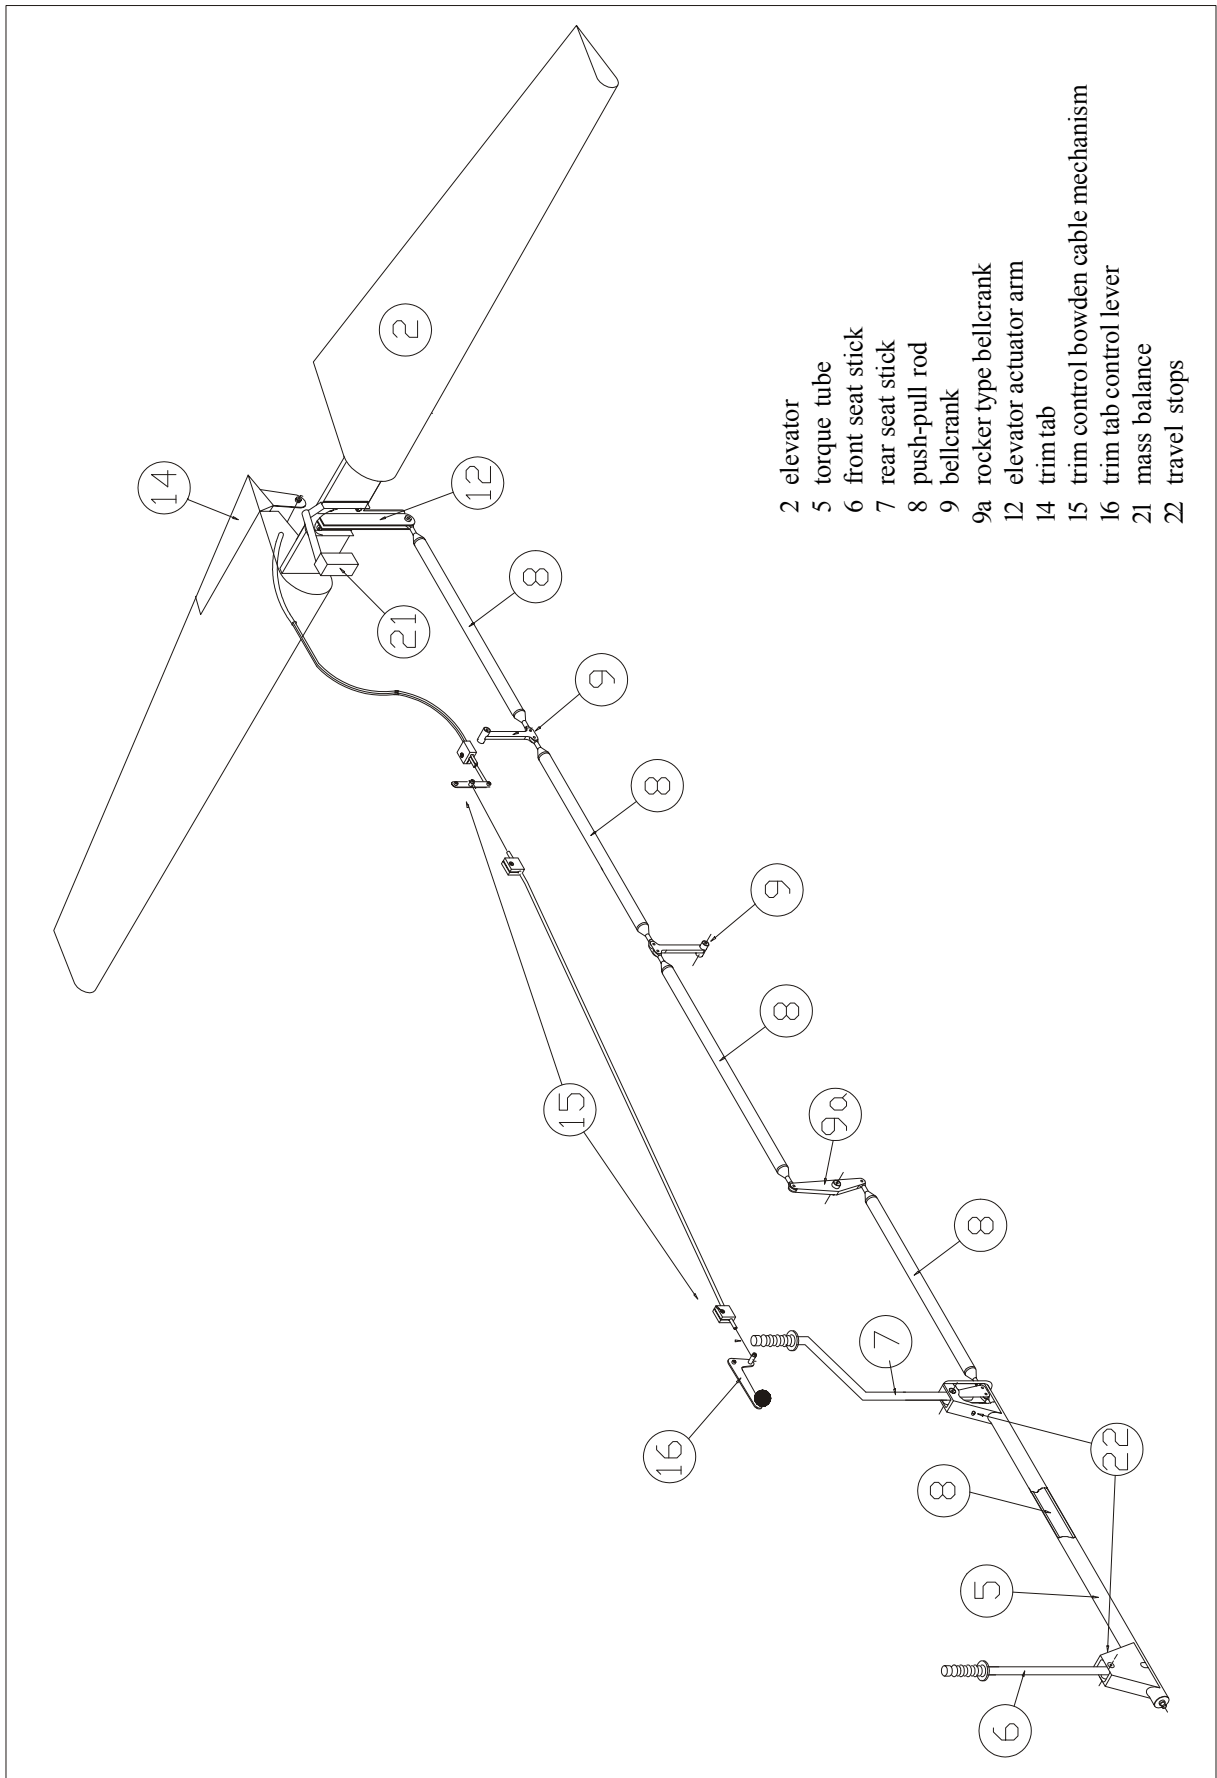

Figure 17
| Refer to Figure 17. The two control sticks (6, 7) are connected by a push-pull rod (8) inside the torque tube (5). The control movements are transferred from the rear control stick (7) to the elevator (2) by push-pull rods (8) and bellcranks (9, 9a). The bellcranks have two sealed ball bearings. The elevator is mounted at five points in spherical bearings pressed into aluminium hinge arms. For lightning protection reason each hinge arm is grounded to the corresponding attachment bracket at the elevator by bonding leads. The travel stops (22) are located in the torque tube.